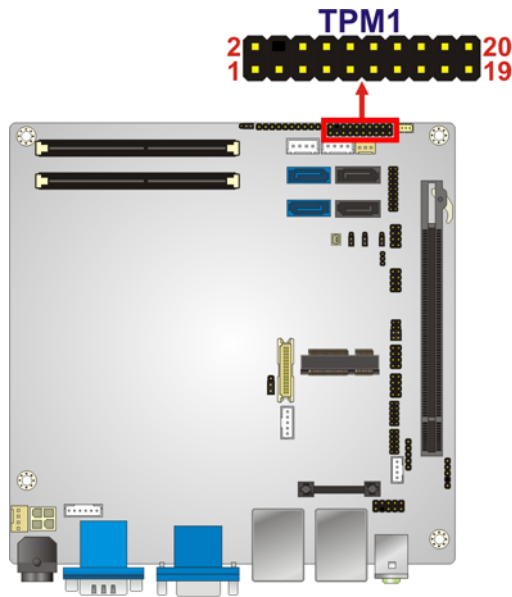

Figure 3-22: TPM Connector Pinout Location
- CN Location:** See Figure 3-22